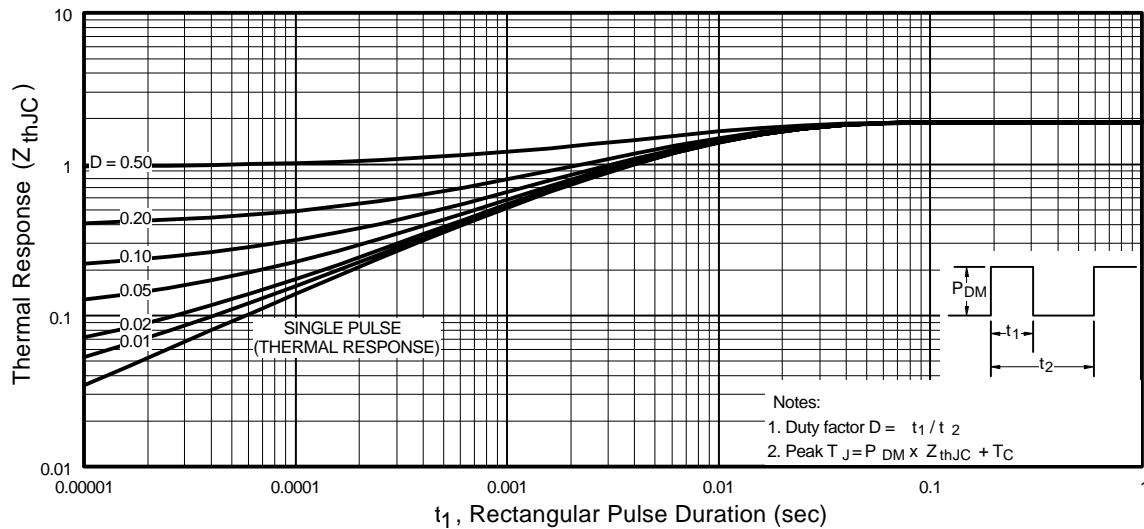

Fig 11. Maximum Effective Transient Thermal Impedance, Junction-to-Case
- ① Repetitive rating; pulse width limited by max. junction temperature. (See fig. 11)
- ② Starting $T_J = 25^\circ\text{C}, L = 3.1\text{mH}$